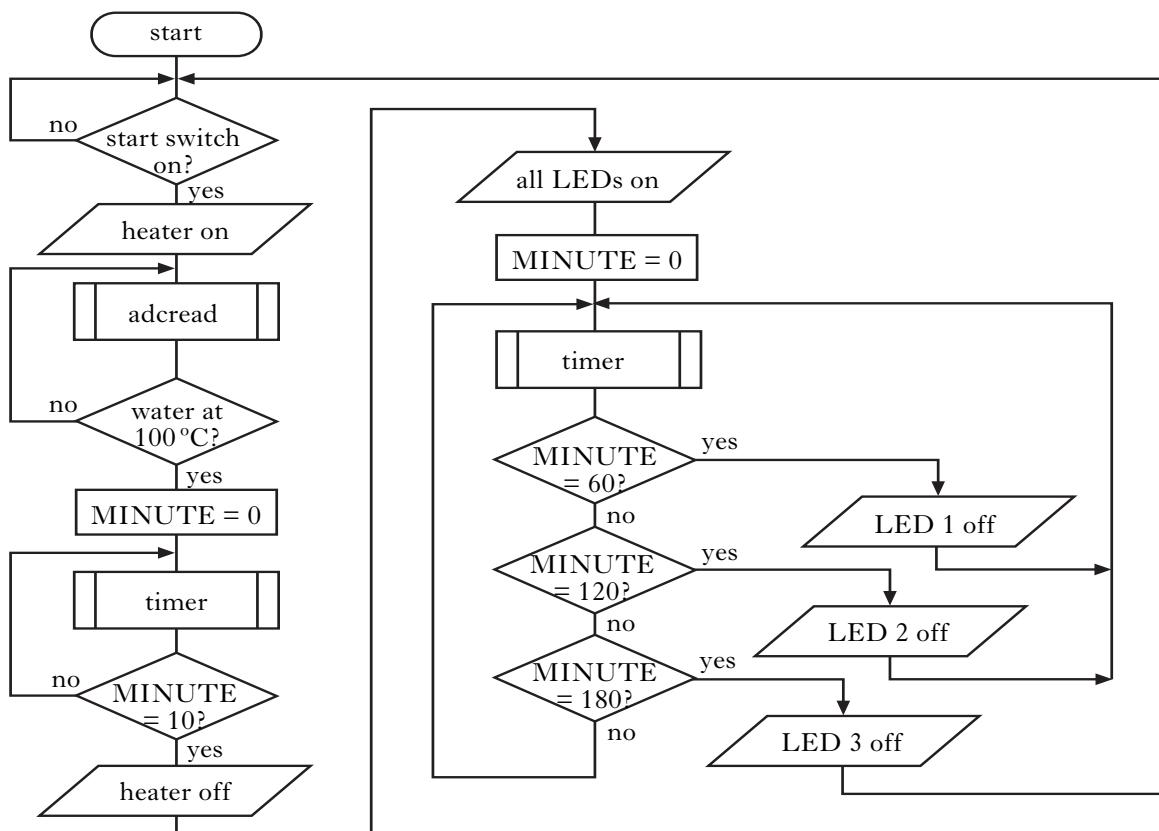

Figure Q10(d)
- (d) Write, in PBASIC, the program represented by the flowchart shown in Figure Q10(d).